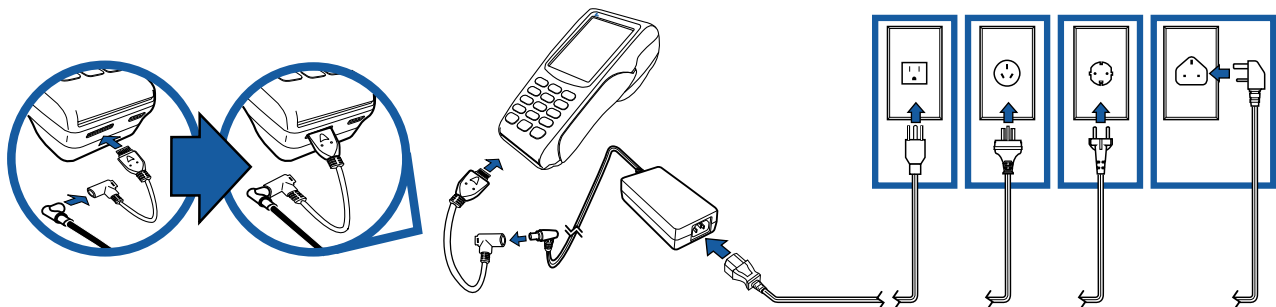

Figure 26 VX 680 Power Pack Connection
- 1 Insert the round barrel connector into the power port in the connector, as shown in Figure 26.